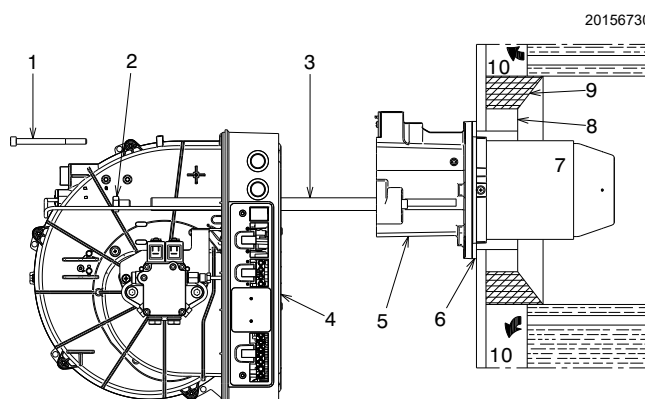

Fig. 10
- Fix the unit 5) and 7) (Fig. 10) to the boiler plate, inserting the insulating gasket 6) (Fig. 10) that was supplied.
- Whenever the nozzle needs changing when the burner is already applied to the boiler, open the burner on the slide bars as in Fig. 10 on page 14 and proceed as described above.
- At this stage of the installation the blast tube and the pipe coupling are secured to the boiler as shown in fig.10 on page 15. Therefore it is easy to adjust the combustion head that depends only on the output of the burner, namely on the flow rate of the nozzle selected in Tab. F on page 15.